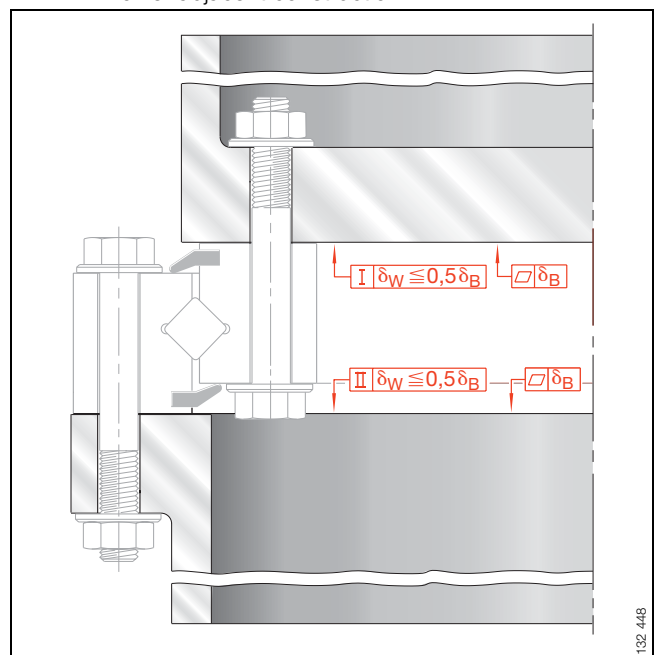

Figure 10 · Permissible flatness deviation
- the flatness deviation must not exceed the permissible value  $\delta_B$  (Figure 10)
- the perpendicularity deviation must not exceed the permissible value  $\delta_W$  (Figure 10).
#### Permissible flatness deviation (Figure 10)
#### Permissible perpendicularity deviation (Figure 10)